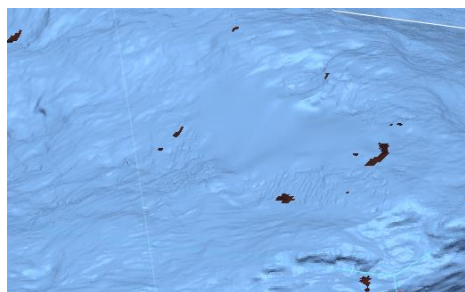

Figure 66
7. Adjust the **More Options** settings to match the previous **Figure 66**.